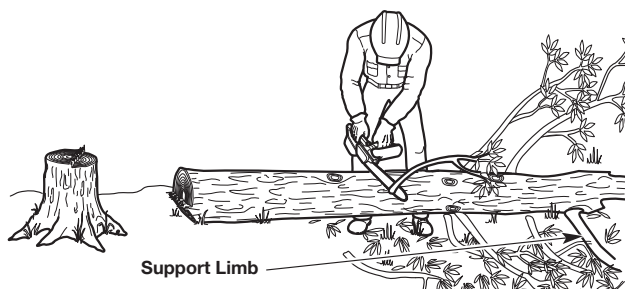

Fig. 15
1. Leave the larger support limbs under the tree for last (Fig. 15). These will keep the tree off the ground during the limbing process.
2. Cut one limb at a time. Stand on the opposite side of the tree from the limb (Fig. 15). Keep the trunk between the operator and the chain saw. To avoid binding the chain saw, branches under tension should be cut from the bottom up.